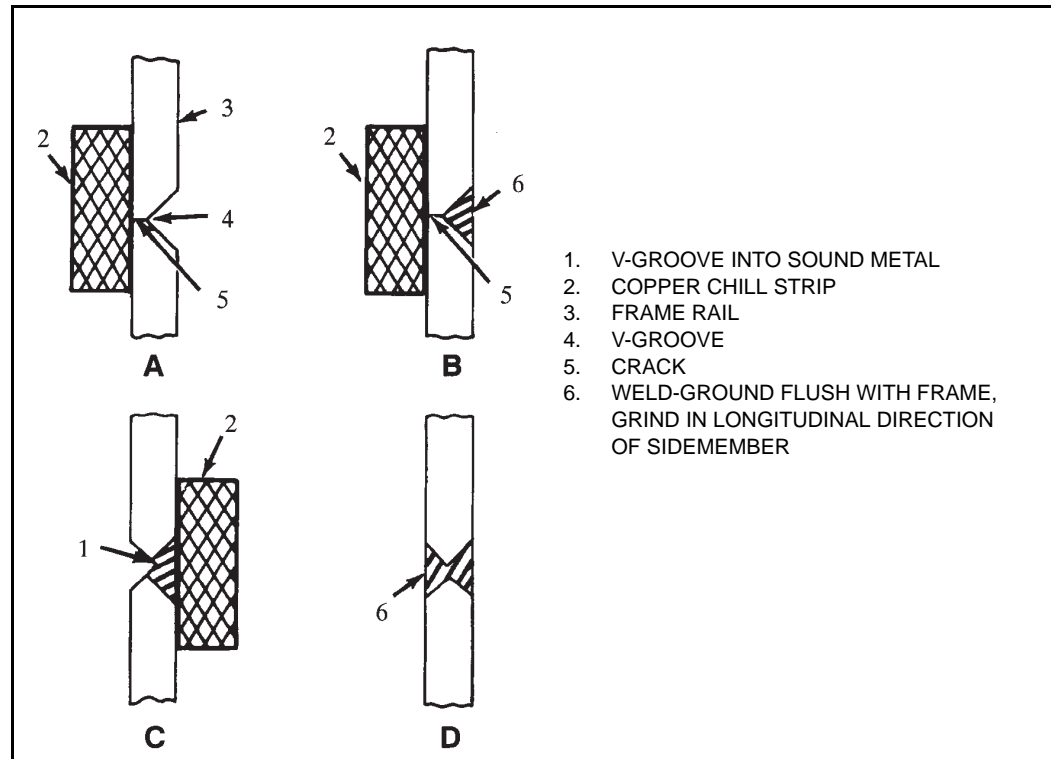

Figure 2.4 Use of Chill Strip
5. Grind smooth and flush with surrounding sidemember material. Grind the weld in a direction that is 90° to crack direction (Figure 2.4 D).
The SMAW and the GMAW methods are preferred for welding the HSLA frames. The use of low hydrogen electrodes is recommended. Refer to Table 2.1 for selection of recommended electrodes and wires, or refer to A.W.S. A5 standard available from www.aws.org for equivalent strength electrodes, wires or rods and power leads to be used in the welding methods. The double V-notch weld preparation using the weld procedure (Figure 2.4) is the preferred welding method.
10. Grind smooth and flush with surrounding sidemember material. Grind the weld in a direction that is at 90° to crack direction (Figure 2.4 D).
A heavy copper “chill” strip should be clamped to the rail side away from the groove to help control the temperature and cooling rate during welding (Figure 2.4). Short lengths of discarded heavy copper electrical bus bars make suitable chill strips.
Slag should be removed after each pass and an interpass temperature of 200° F (93° C) should be maintained. Grind smooth and flush with surrounding sidemember material, in a direction that is parallel to the longitudinal axis of the sidemember (Figure 2.4 D).
A V-groove is ground from the side opposite the repair and the procedure outlined above repeated. “Chill” strips should be used whenever possible. The V-groove ground on the opposite side of the repair should be deep enough to enter the sound metal of the first weld repair (Figure 2.4 C).